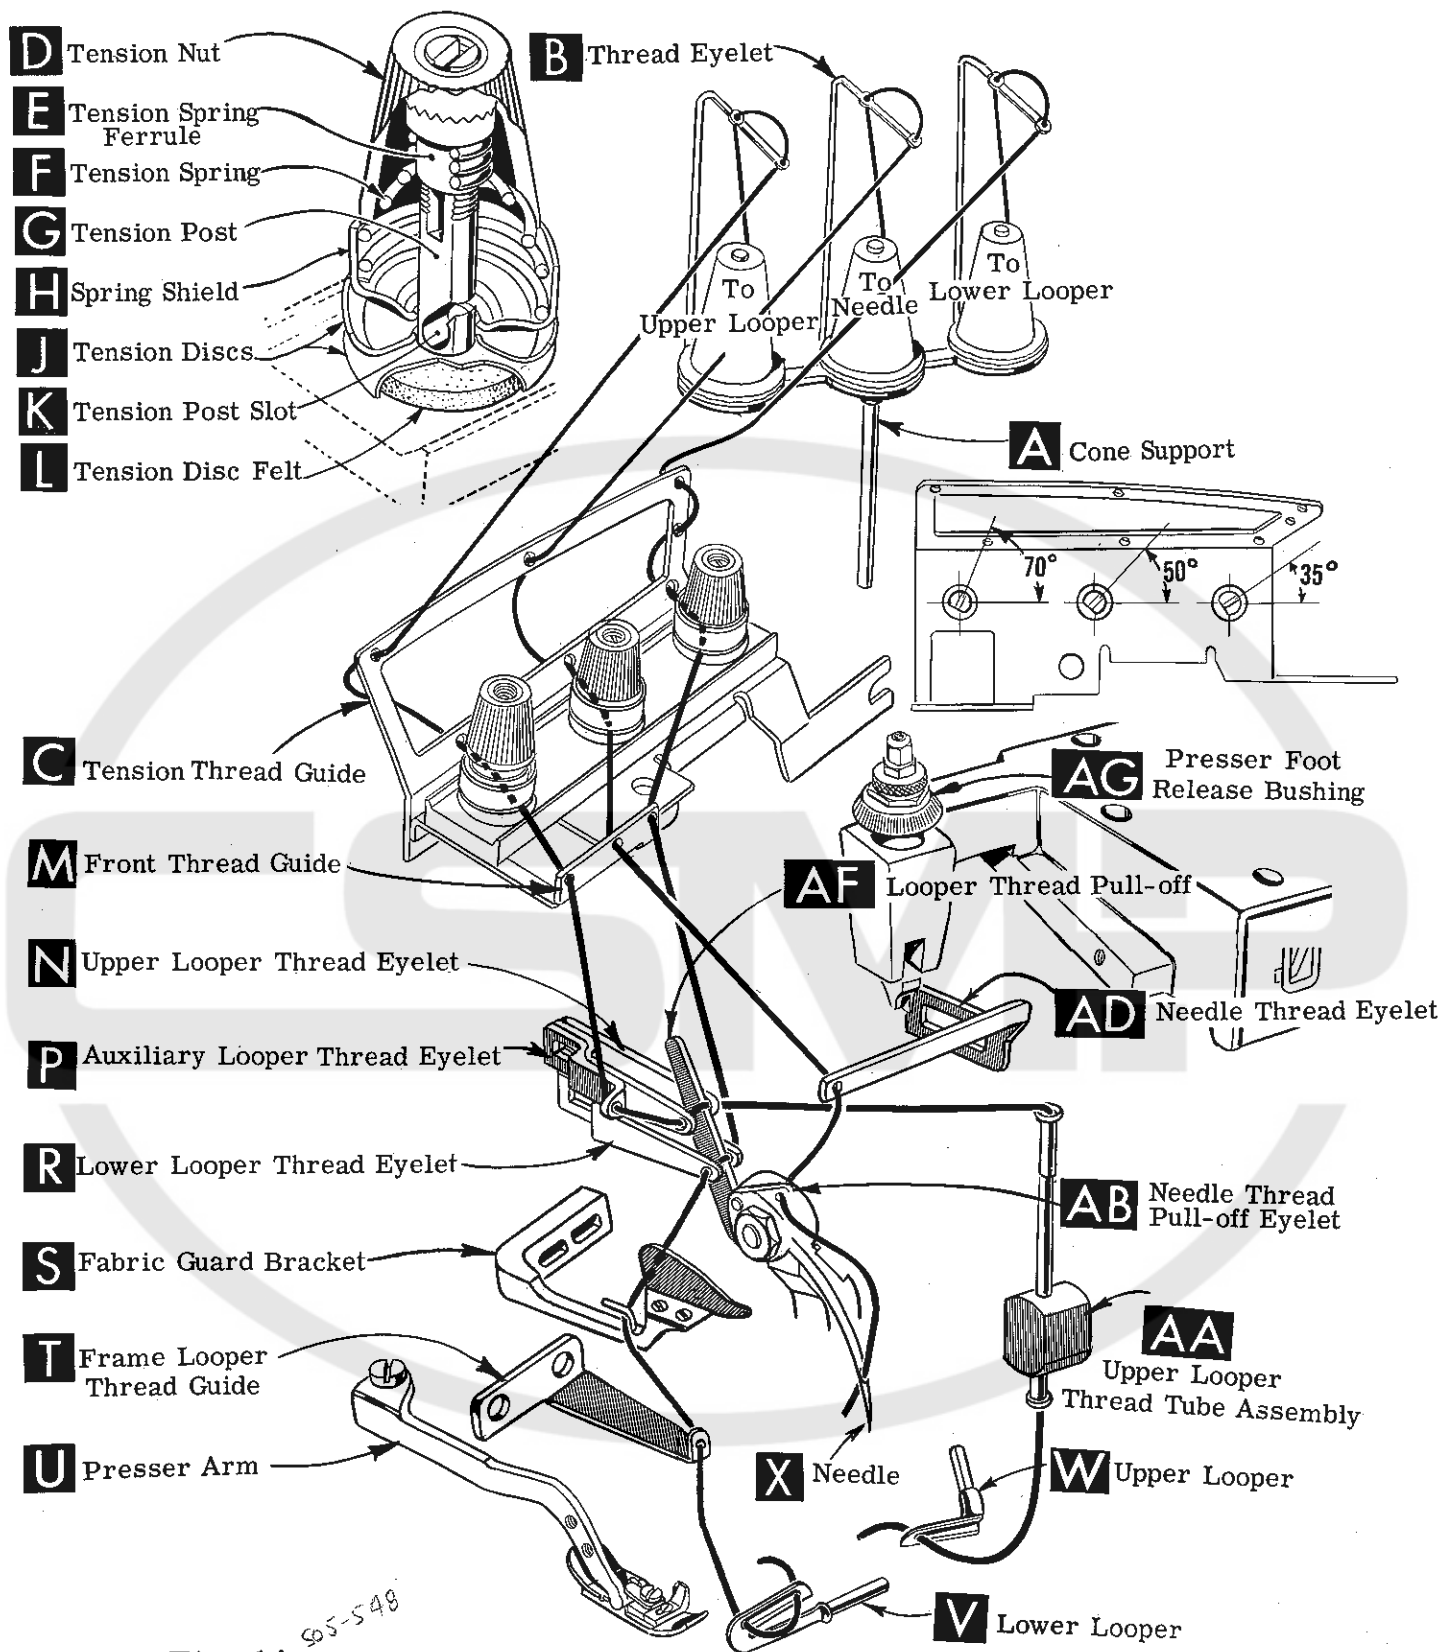

Fig. 1A 95-548
NOTE: Refer to Fig. 1 for threading Styles 39500 FJ and JJ or refer to Fig. 1A for threading Style 39500 FL.
Double end of thread and lead it through the left eyelet of front thread guide (M, Fig. 1A). Turn handwheel until point of upper looper (W, Fig. 1A) is all the way to the left. Lead thread through auxiliary looper thread eyelet (P) from back to front, then through both eyes of upper looper thread eyelet (N) from left to right. NOTE: thread must pass in front of looper thread pull-off (AF).
Be sure machine Styles 39500 FJ and JJ are threaded according to threading diagram Fig. 1 and that machine Style 39500 FL is threaded according to threading diagram Fig. 1A.
With thread tensions light, set looper thread eyelet (R, Fig. 1) or looper thread eyelets (N and R, Fig. 1A) about horizontal and in the middle of their front to back location. Operate machine slowly, without presser foot in place, to make sure chain forms and moves off the tongue freely.